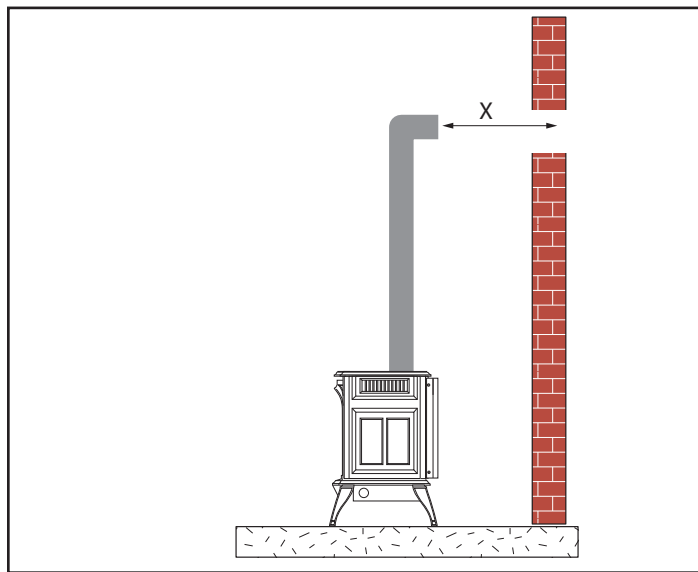

**Figure 3.12 - Vertical Height Requirements**
3. Place stove into position. Measure the vertical height (X) required from the base of the flue collars to the center of the wall opening, Figure 3.12